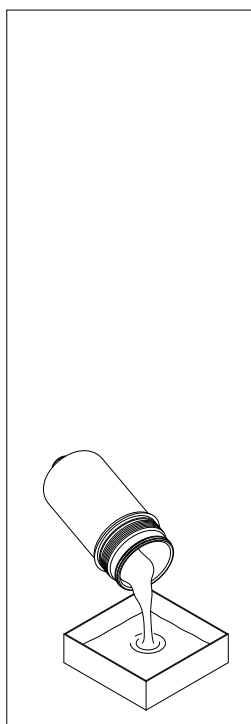

fig. 5
- (Fig. 5) If no drain plug is provided, empty the operating fluid from the bowl into the collection vessel